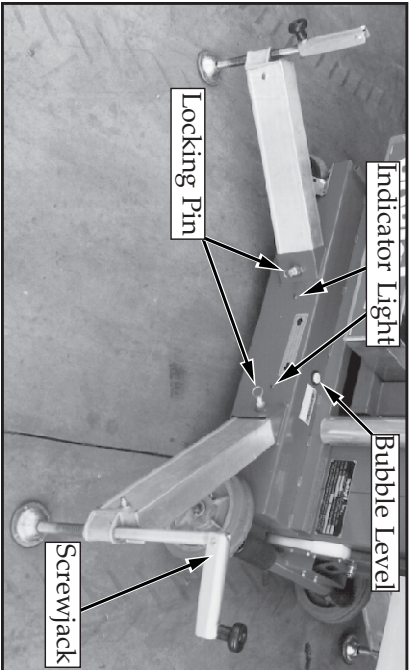

Figure 1: Installing outriggers
2. Insert into outrigger socket in base (Figure 1).
4. Repeat the above steps for all other outriggers. Make sure all four (4) locking pins are engaged.
5. Level the base, centering the bubble in the orbit level on the base by adjusting the screwjacks at the end of each outrigger (Figure 1). DO NOT release the tension on an outrigger, by turning counterclockwise, to level base.
6. All four (4) screwjack pads must be in solid contact with a firm surface and each outrigger indicator light must be lit before the platform is elevated.